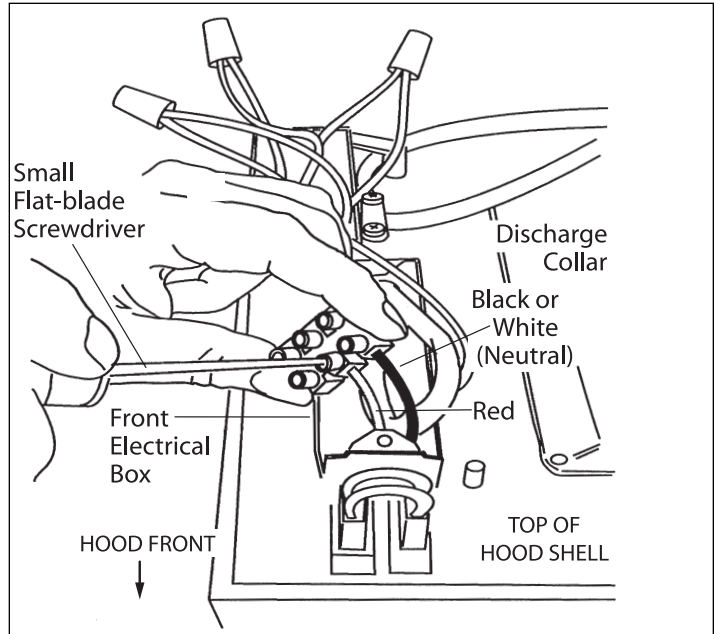
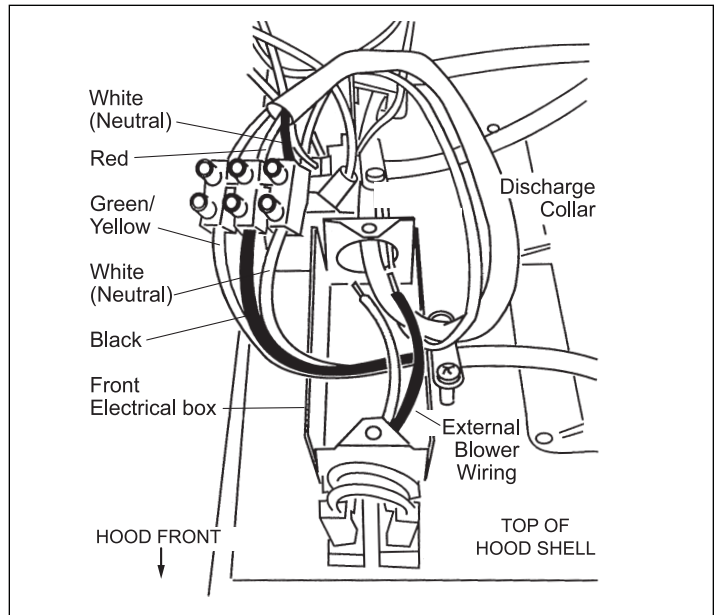

Figure 2-39 Remote Blower Electrical Connections Prepare
Figure 2-40 Remote Blower Electrical Connections
2. Disconnect the red, black or white wires using a flat-blade screwdriver. (See Figure 2-39)
3. Insert 6” (152) of the remote blower wiring through the knockout opening. Secure the cable to the electrical box with an appropriate connector. Use wire connectors or wire nuts approved by UL or C/UL.
4. Attach the remote blower wiring where the wires were removed in step 2. (See Figure 2-40)